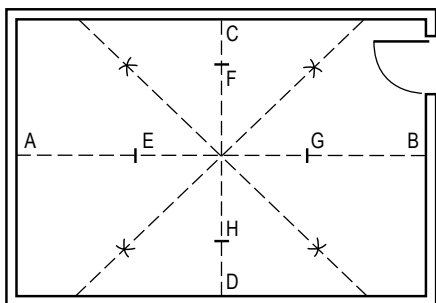

Fig. 17 - Diagonal Layout.
- Use a slightly larger arbitrary size and swing an arc on both sides of each line from points E, F, G, H (Fig. 17). Snap diagonal chalk lines at the point where the marks intersect. If done correctly, the chalk lines will intersect at the center point.